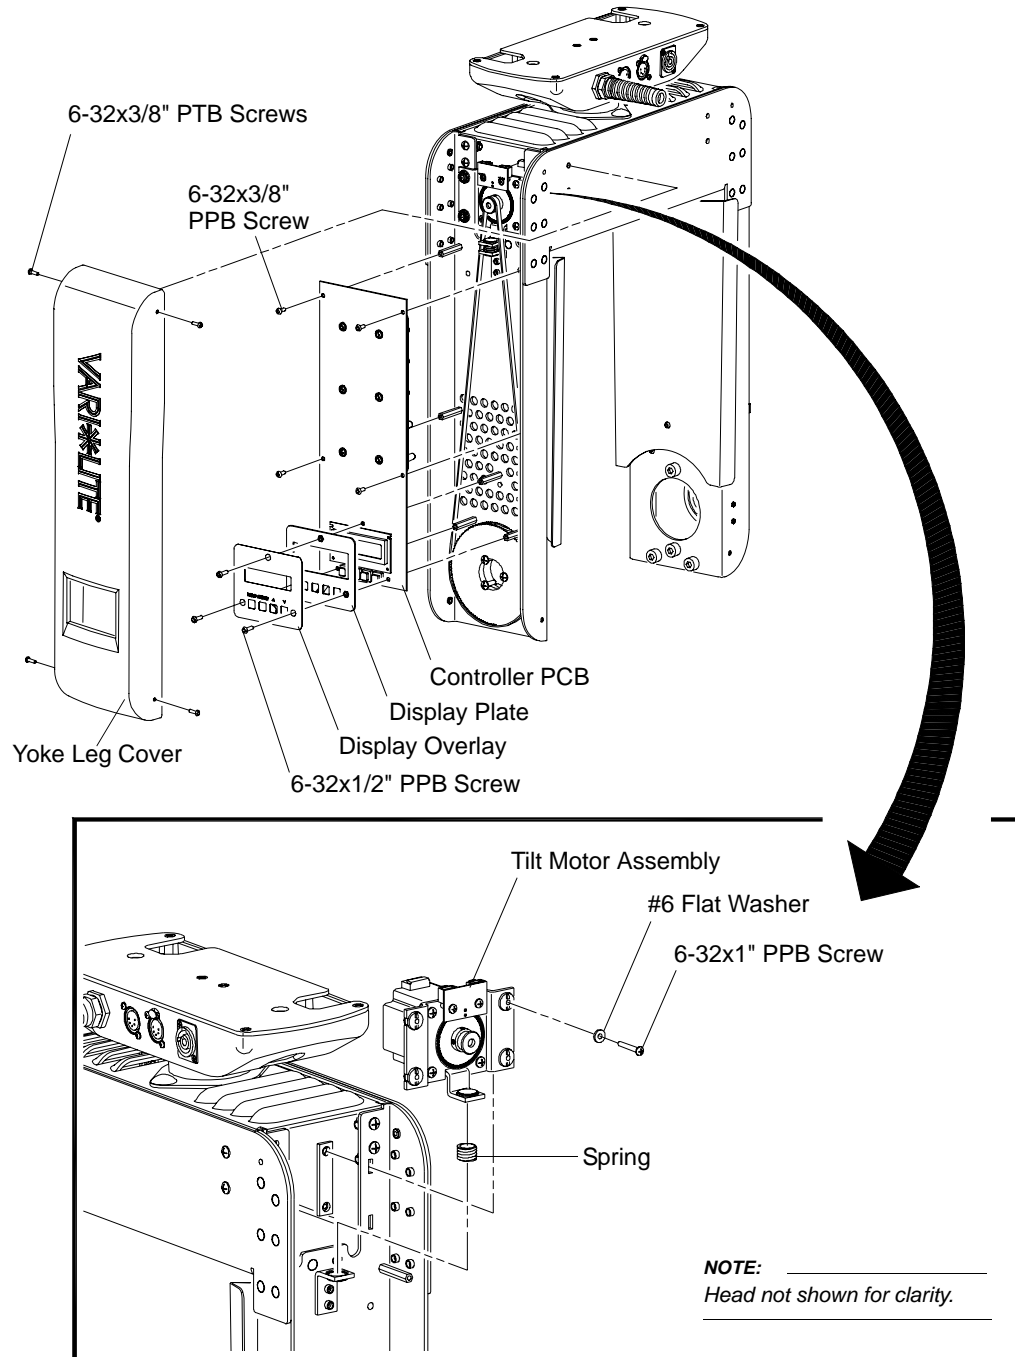

Figure 2-26: Tilt Motor Assembly Replacement
- Step 2. Remove yoke leg cover (side with menu display) by removing four 6-32x3/8" PTB screws (Figure 2-26).